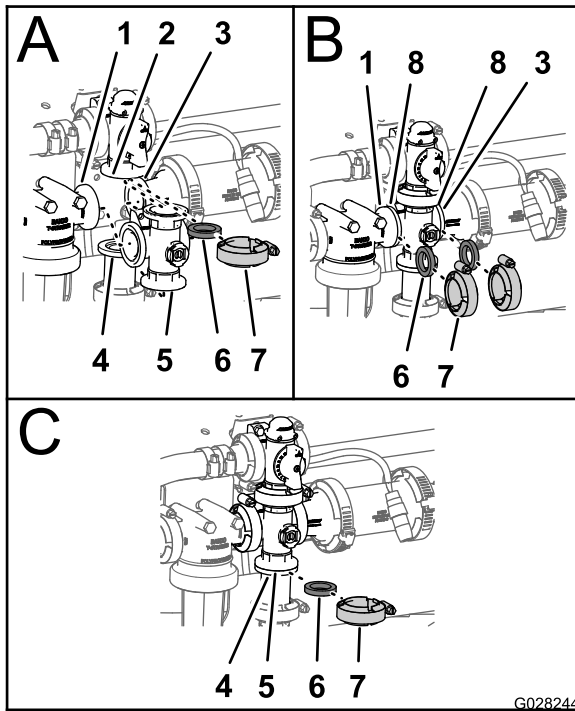

Figure 143
1. Align the flange of the agitation bypass valve, 1 gasket, and the end-cap-fitting flange of the agitation-valve manifold (Figure 143).
2. Assemble the agitation bypass valve, gasket, and agitation-valve manifold with a clamp, and tighten by hand (Figure 143).
3. Align a gasket between the flanges of the pressure-filter head and the agitation-valve manifold (Figure 143).
4. Assemble the pressure-filter head, gasket, and agitation-valve manifold with a clamp, and tighten by hand (Figure 143).
5. Align a gasket between the flanges of the agitation-valve manifold and the reducer coupling (Figure 143).
6. Assemble the agitation-valve manifold, gasket, and reducer coupling with a clamp, and tighten by hand (Figure 143).
7. Align a gasket between the flanges of the agitation-valve manifold and the adapter fitting for the agitation throttle valve (Figure 143).
8. Assemble the agitation-valve manifold, gasket, and adapter fitting with a clamp, and tighten by hand (Figure 143).